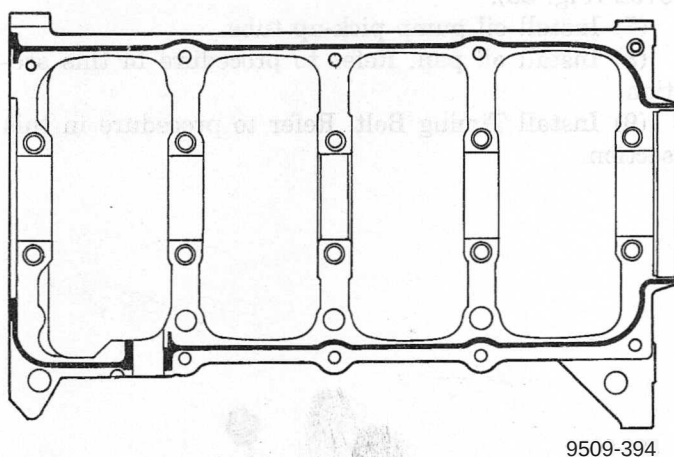

Fig. 83 Main Bearing Caps/Bedplate Sealing
(4) Apply 1.5 to 2.0 mm (0.059 to 0.078 in.) bead of Mopar®Torque Cure Gasket Maker to cylinder block as shown in (Fig. 83).